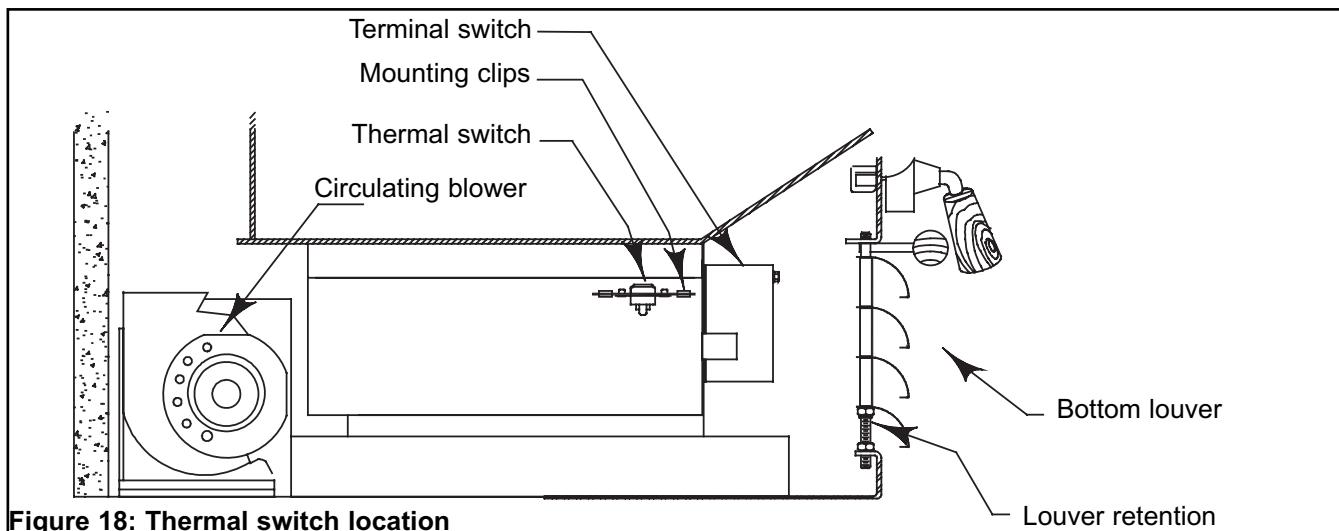

Figure 18: Thermal switch location
7. Mount the thermal switch on its support as shown in (Figure 18). The thermal switch support is located just beneath the bottom of the firebox on the right hand side leg. Push the clips on to the support as far as they will go.